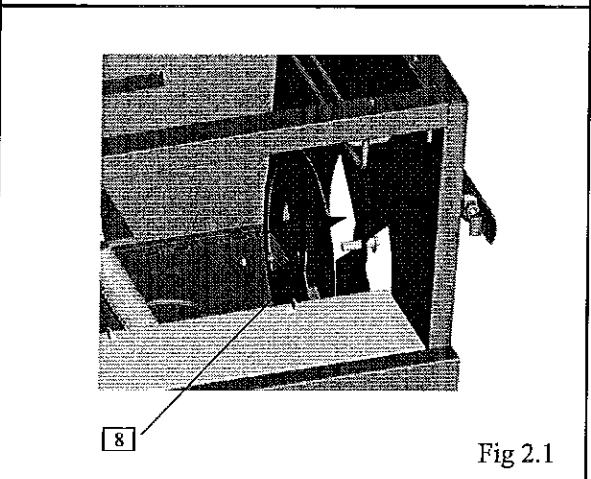

Fig 2.1
Procedure: Attach the damper to the inside of the right side of lower cabinet using (1) 10#-24*1/2" bolts, (1) 10#-24 hex. Nuts and (1) Φ5 washers. Repeat for left side of lower cabinet. Fig2.1